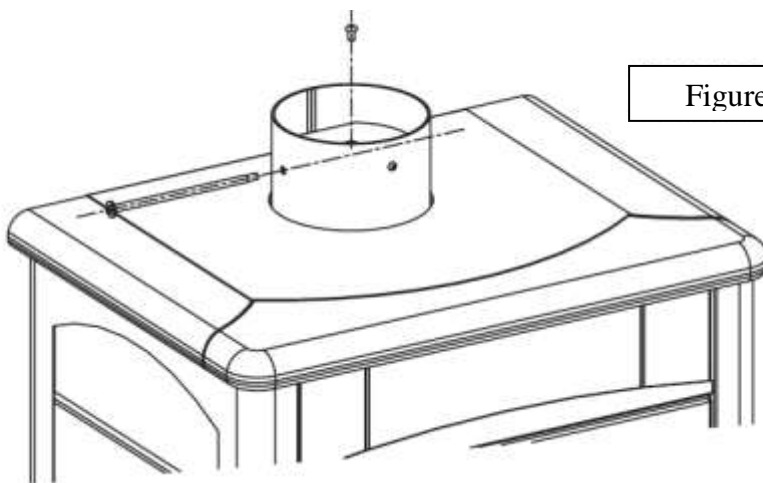

Figure: 3.14.
2. Remove the screw holding the pin and remove it from its location see Figure 3.14.